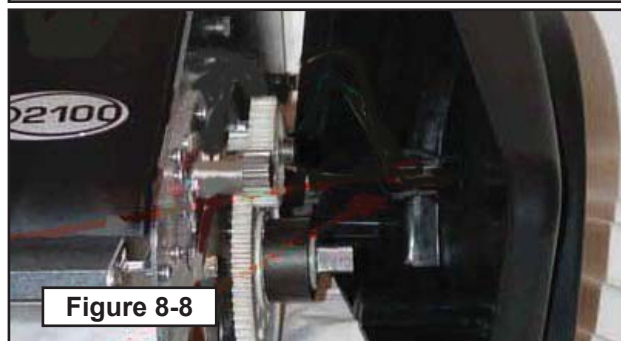

Figure 8-8
8. Slide handle to the end of handle shaft. Slowly remove right side cover / handle. (**Figure 8-8**).